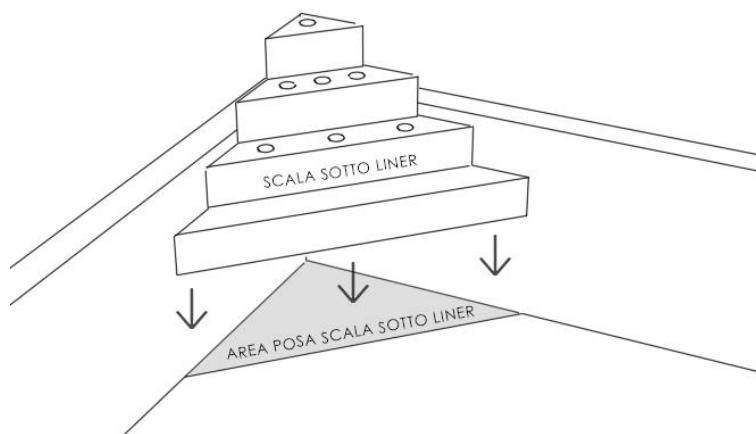

Figure 2 - Laying stair under liner
14. Present the stairwell in the design position and check the coplanarity of the staircase with the walls of the pool, verifying its right angle at 90° (see figure 2).